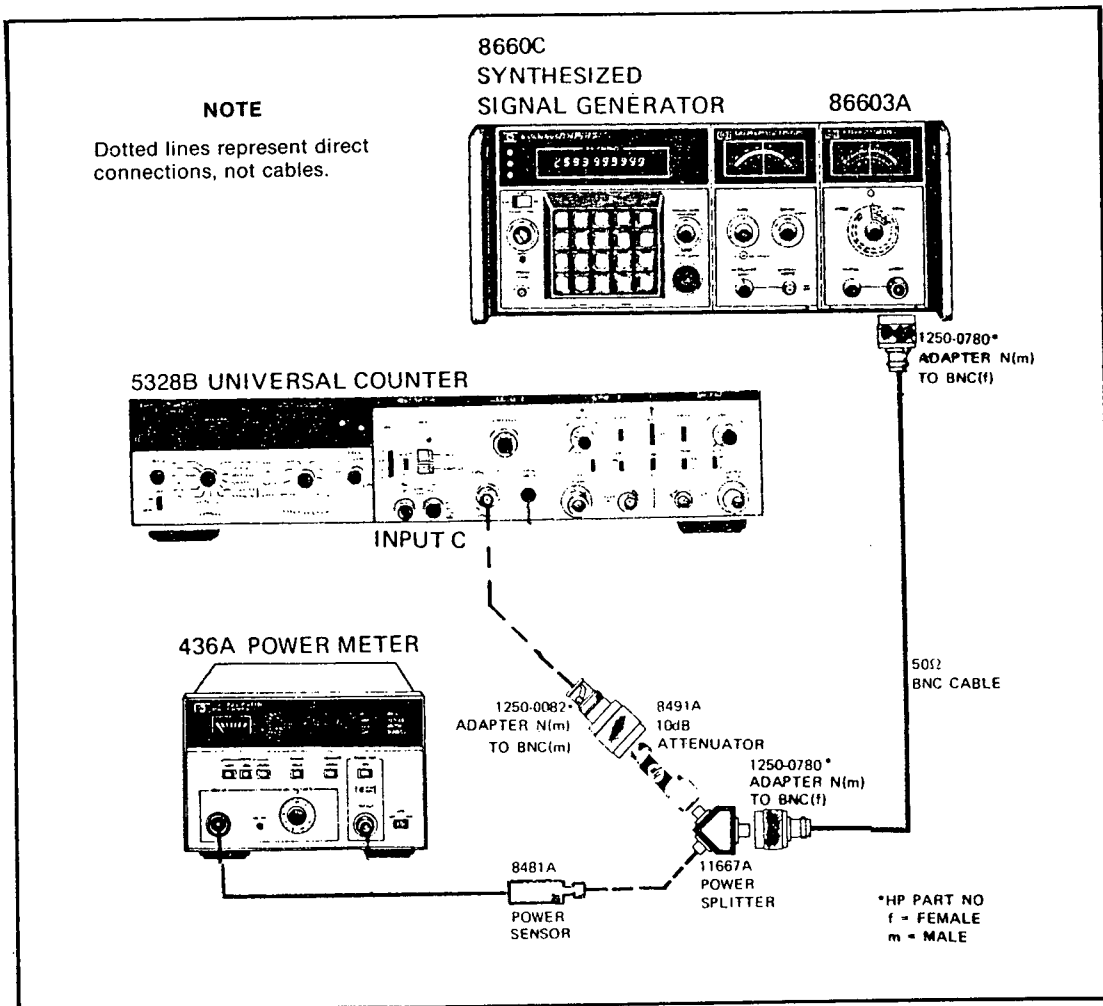

Figure 4-14. Channel "C" — Frequency Response and Sensitivity Test — Setup
a. Set up the equipment for this test as shown in Figure 4-14.